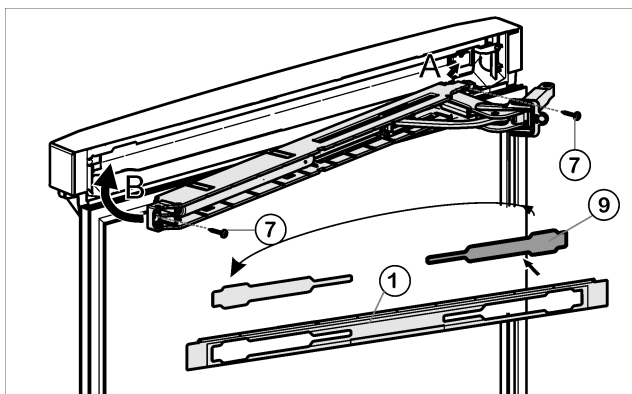

Fig. 16
- ▶ Loosen cover *Fig. 16 (9)* from the panel *Fig. 16 (1)* and insert on the other side.
- ▶ With the hinge of the upper soft stop unit facing the door hinge side, engage the soft stop unit (A) and swivel inwards (B)
- ▶ Tighten soft stop unit (2 x Torx® 15) *Fig. 16 (7)*.